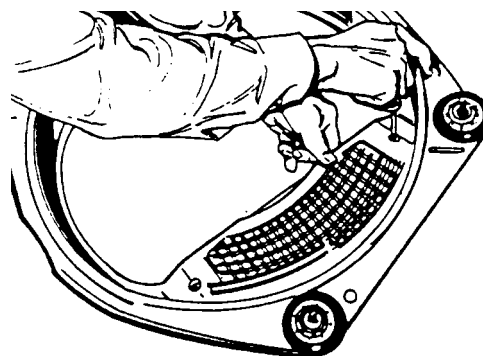

Fig. 44
3. Remove the two (2) screws attaching the grill assembly to the front panel and remove the grill assembly. (Fig. 44)